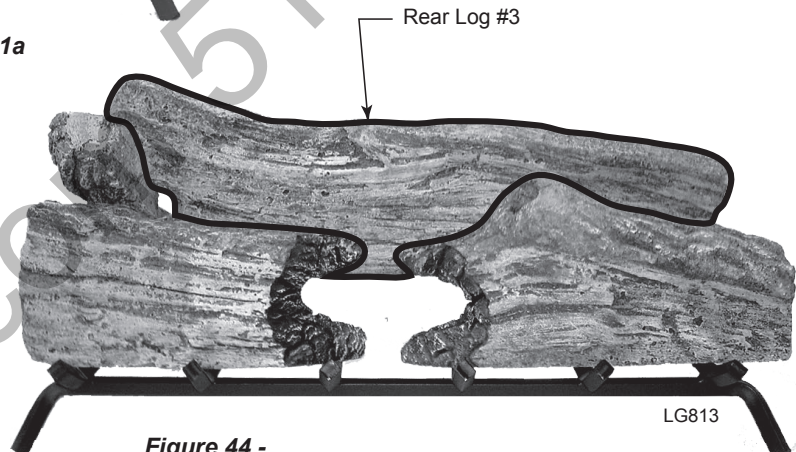

Figure 44 - Place Rear Log #3
4. Fit cutout in the bottom left of Rear Log #3 over the back end of log #2. Place right end of Log #3 on rear grate bar. *Figure 44*